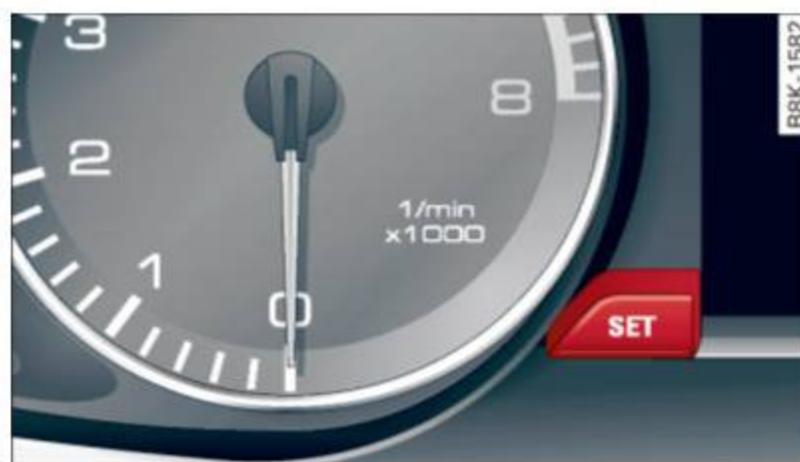

Fig. 99 SET button in the instrument cluster
- ▶ Press the **SET** button in the instrument panel display ⇒ *fig. 99* for 1 second.